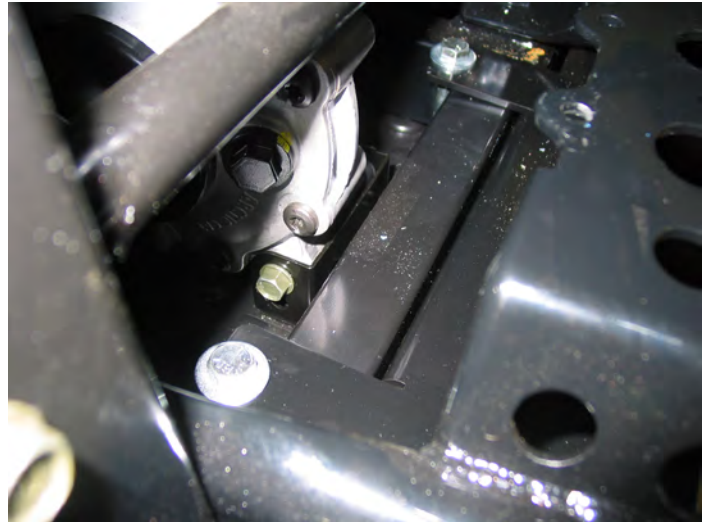

Figure 9a
6. Install the M10x 95mm long bolts down through the top of the front plow mount through the lower tabs and secure with 3/8 flat washers and M10 nylock nuts. See figure 9a and 9b.